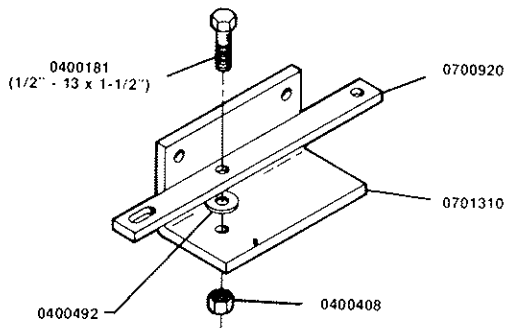

Figure 5.1
7. Assemble "Mechanical Advantage" system according to fig. 5.1. Use hardware from "Manual P.T.O. Control Kit" #0900267.